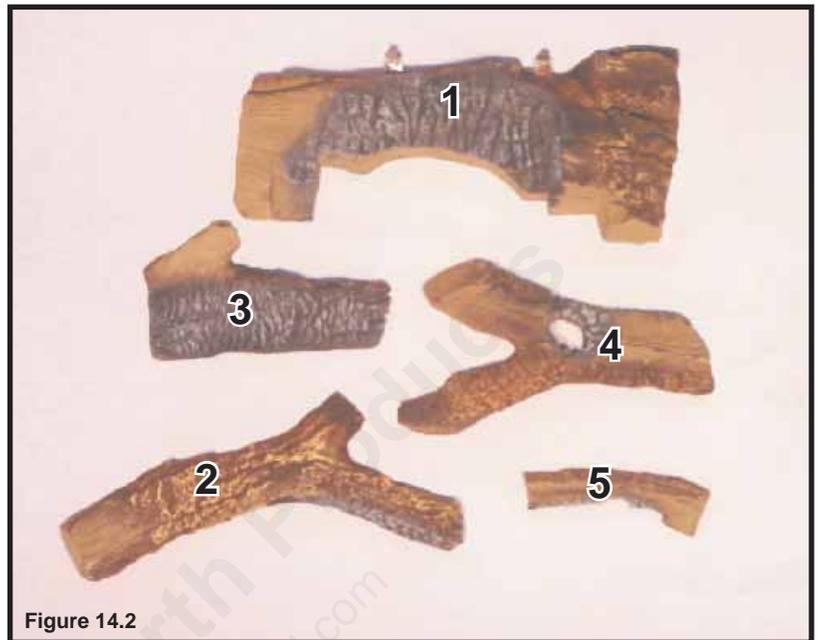

Figure 14.2
**CAUTION:** Logs are fragile! Carefully remove the logs, grate and supporting cardboard from the inside of the fireplace See Figure 14.2.